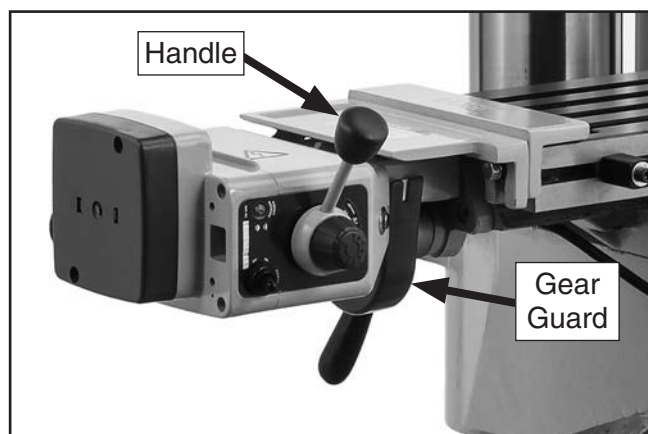

Figure 25. Gear cover installed.
13. Install direction lever handle, as shown in **Figure 25**.
14. Remove adhesive backing from gear guard and install over X-axis table gear, as shown in **Figure 25**.